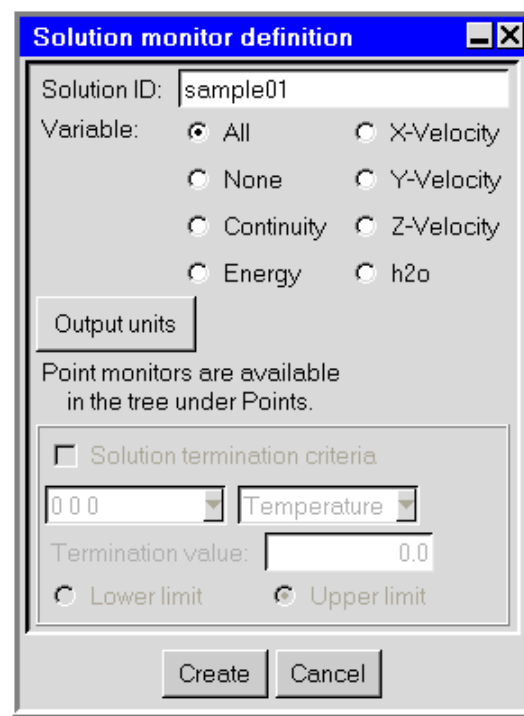

Figure 27.11.18: Solution monitor definition Panel
4. Once the iteration starts and the **Calculate Solution** progress is reported in the **runrsf** panel, you can create a convergence plot to monitor the solution. (Figure 27.11.18)